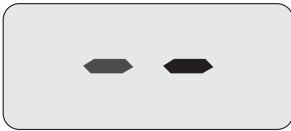
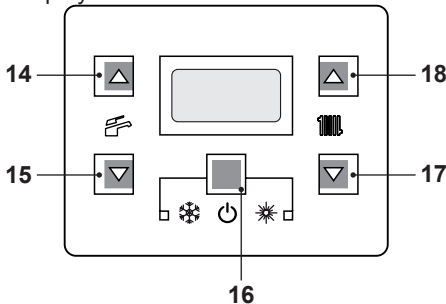

Fig. 7.10
Fig. 7.11
- Electrically power the boiler by switching on the double pole isolation switch. The LCD will display, the   symbol (Fig. 7.10).
- Press the 16 key for 2 seconds until both  and  symbols appear on the display Fig. 7.11.
- Switch off the boiler by pressing the 16 (Fig. 7.11) key for 2 seconds until the   symbol appears on the LCD display (Fig. 7.10).
- Press the 16 key for 2 seconds until both  and  symbols appear on the display Fig. 7.11. The LCD display displays the boiler temperature (primary circuit) and the  and  symbols; the  $^{\circ}\text{C}$  symbol slowly flashes Fig. 7.12.
Press the reset key on the boiler control panel 16 (Fig. 7.11) to reset its functioning.